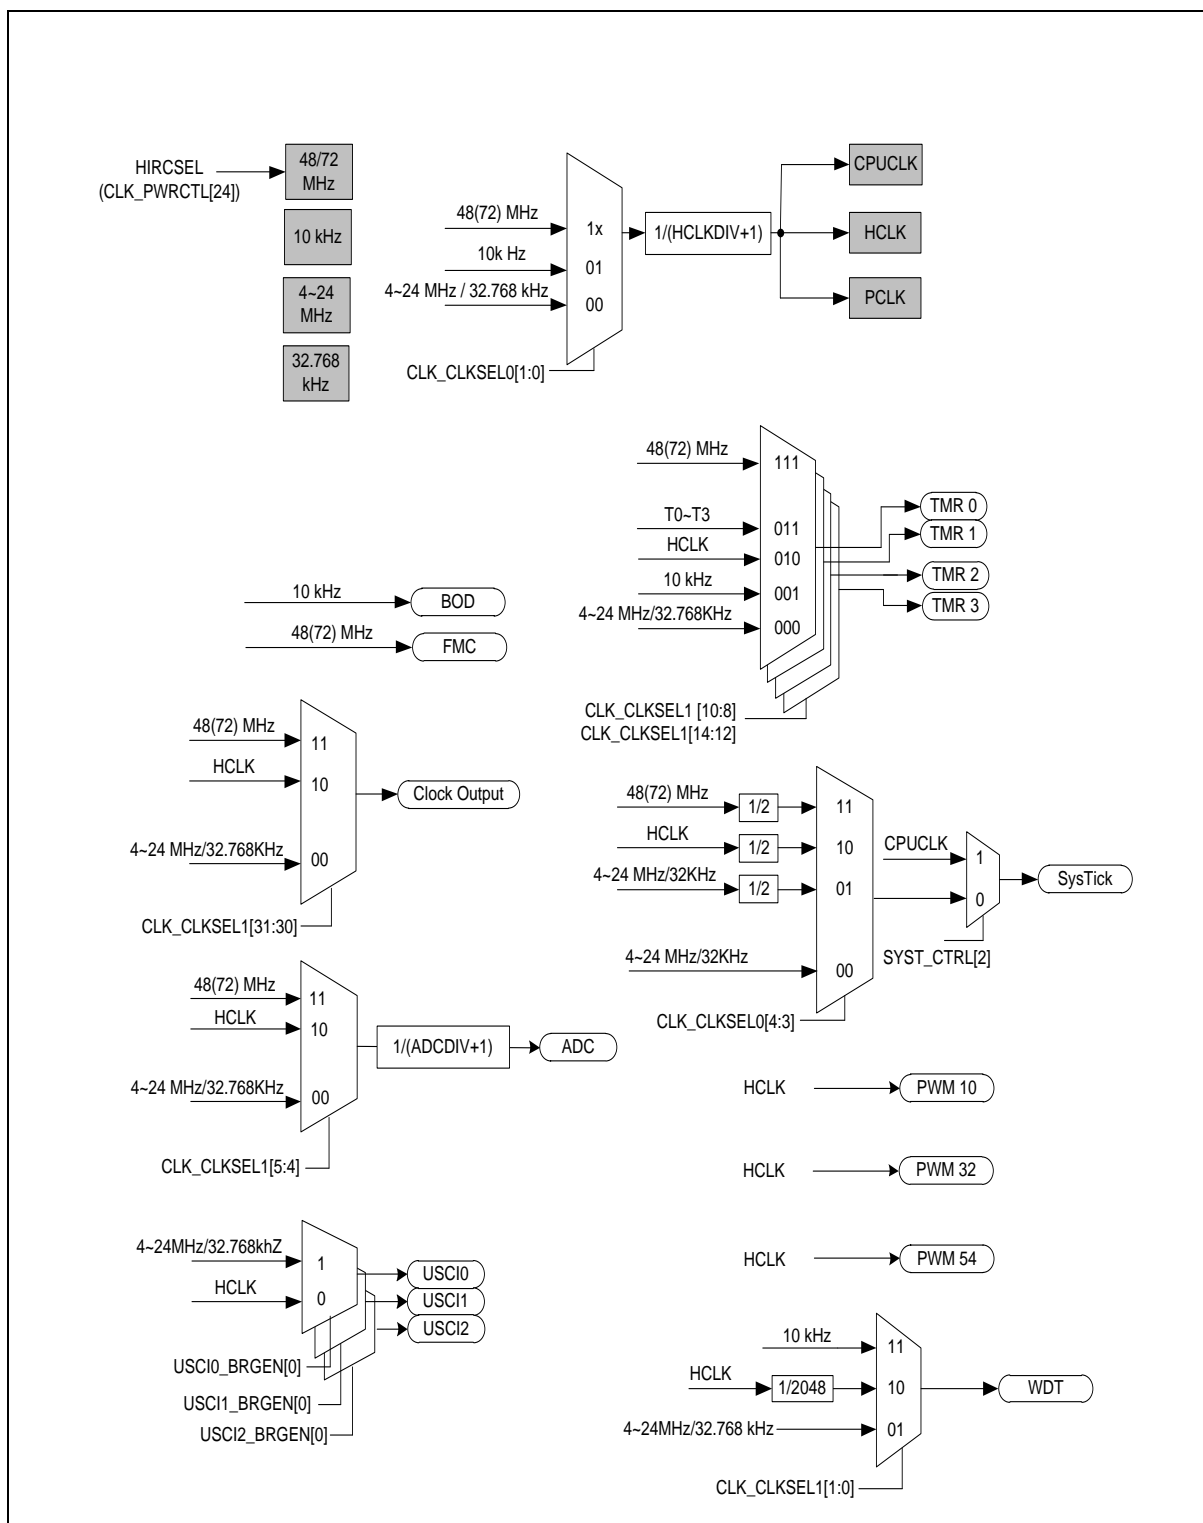

Figure 6.3-1 Clock Generator Global View Diagram
The clock controller generates clocks for the whole chip, including system clocks and all peripheral clocks. The clock controller also implements the power control function with the individually clock ON/OFF control, clock source selection and clock divider. The chip enters Power-down mode when the Cortex®-M0 core executes the WFI instruction only if the PDEN (CLK\_PWRCTL[7]) bit set to 1. After that, chip enters Power-down mode and waits for wake-up interrupt source triggered to exit Power-down mode. In Power-down mode, the clock controller turns off the 4~24 MHz external high speed crystal (HXT) and 48(72) MHz internal high speed RC oscillator (HIRC) to reduce the overall system power consumption. Figure 6.3-1 shows the clock generator and the overview of the clock source control.